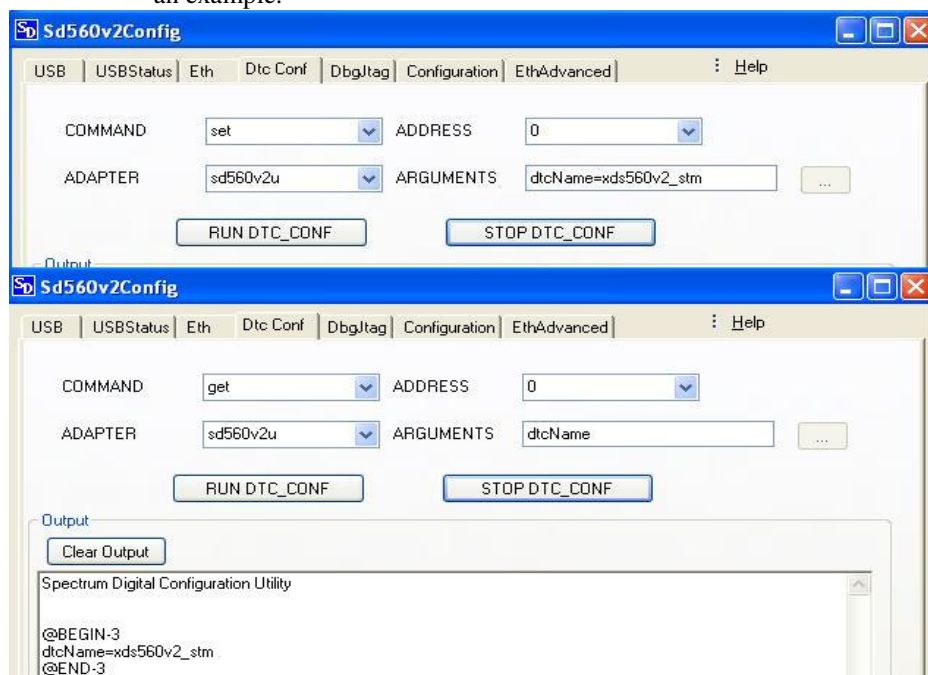

FIGURE 15: Sd560v2Config – DtcConf tab set command
4. Click on RUN DTC_CONF. Figure 15 below elucidates how to set dtcName variable as an example.